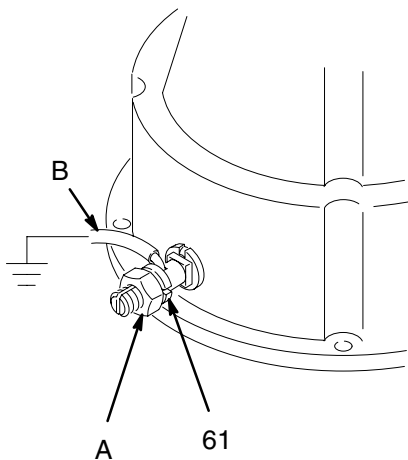

Fig. 2
Loosen the locknut (A) of the grounding lug and washer. Insert one end of the wire (B) in the grounding lug (61) and tighten the locknut securely. See Fig. 2. Connect the other end of the wire to a true earth ground, as recommended by your local code. Order Part No. 237569, Ground Wire and Clamp.